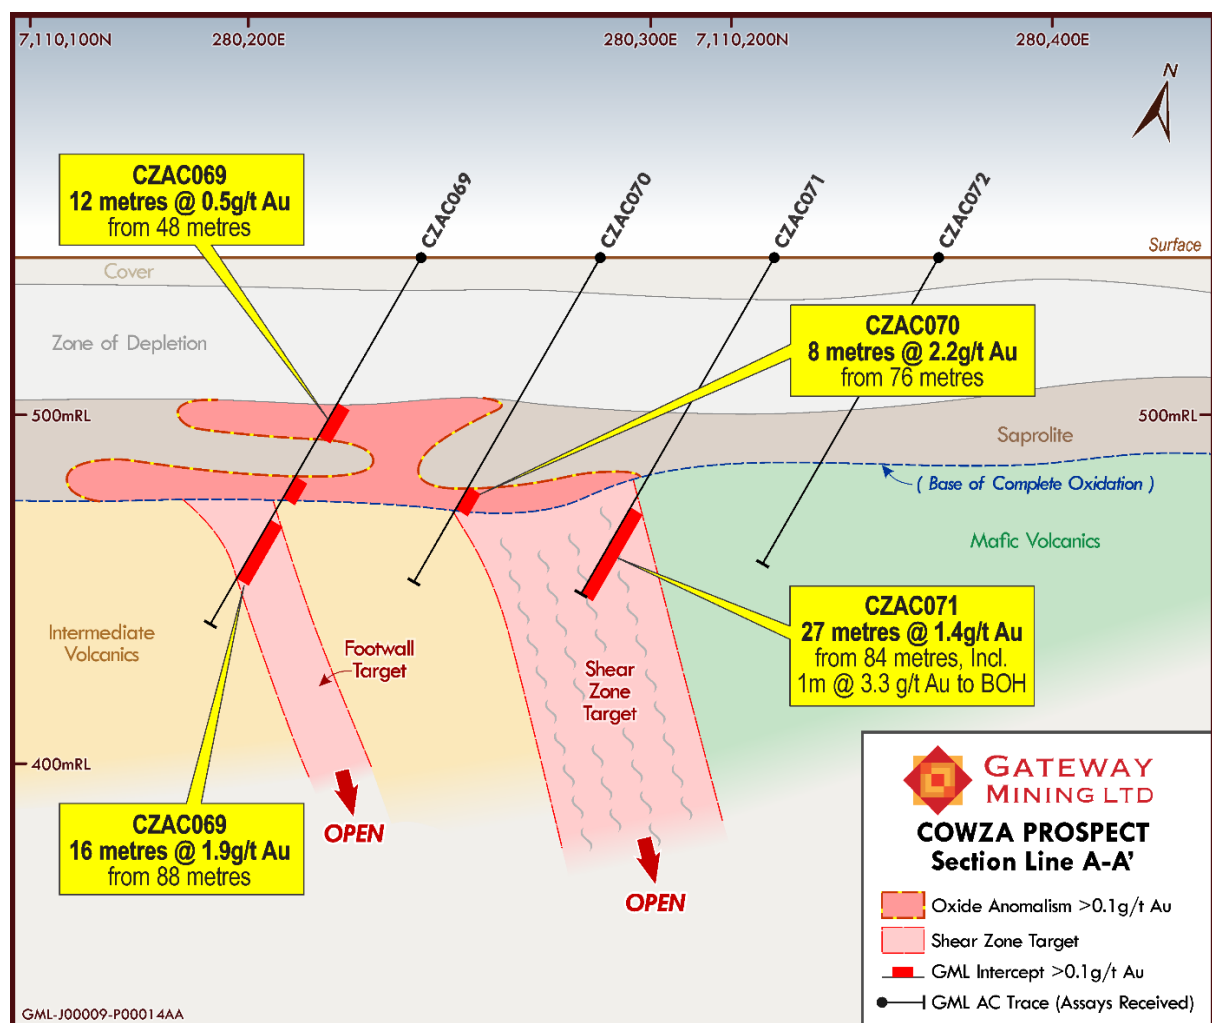

Figure 2: Cross Section showing Cowza mineralisation and geological units.
- CZAC071 above is the first hole to properly test mineralisation in fresh rock, with the last 1m to BOH also returning 3.3g/t Au and still within the shear zone (see Figure 2).